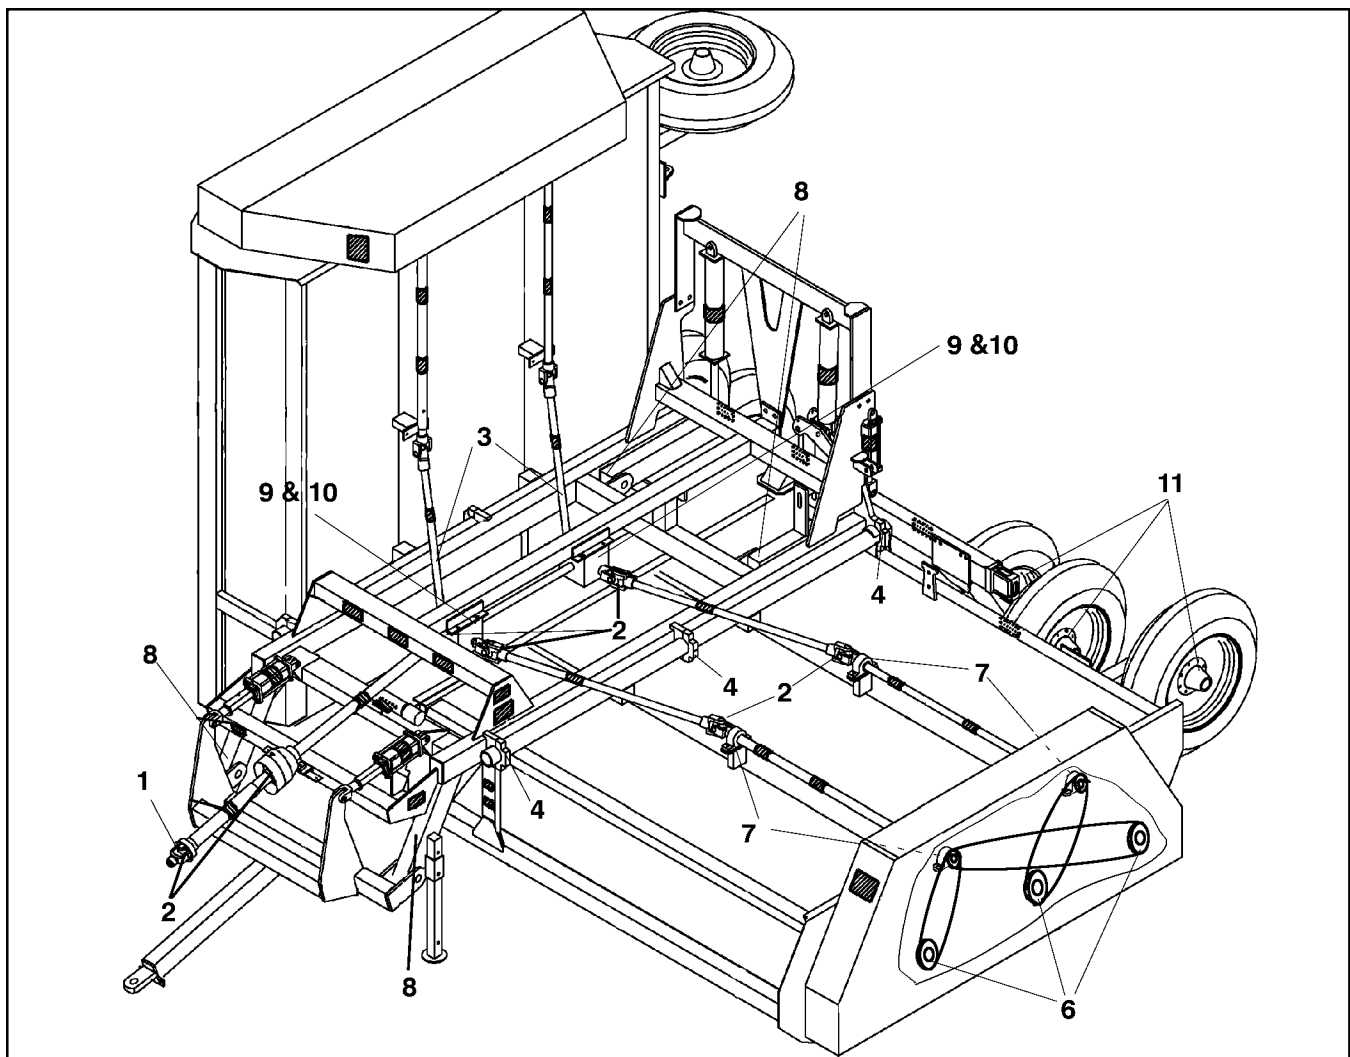
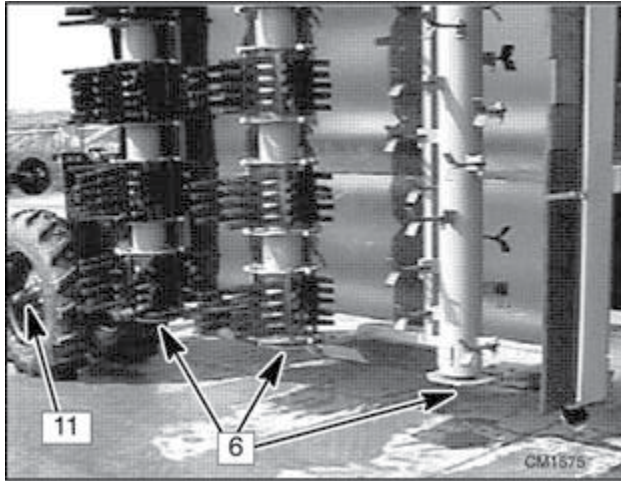

Figure 30. Lubrication Points
Figure 29. Inside Rotor Bearings
Sealed Bearing Information (Figure 29)
6. Grease all rotor bearings (Figure 29 and Figure 30).